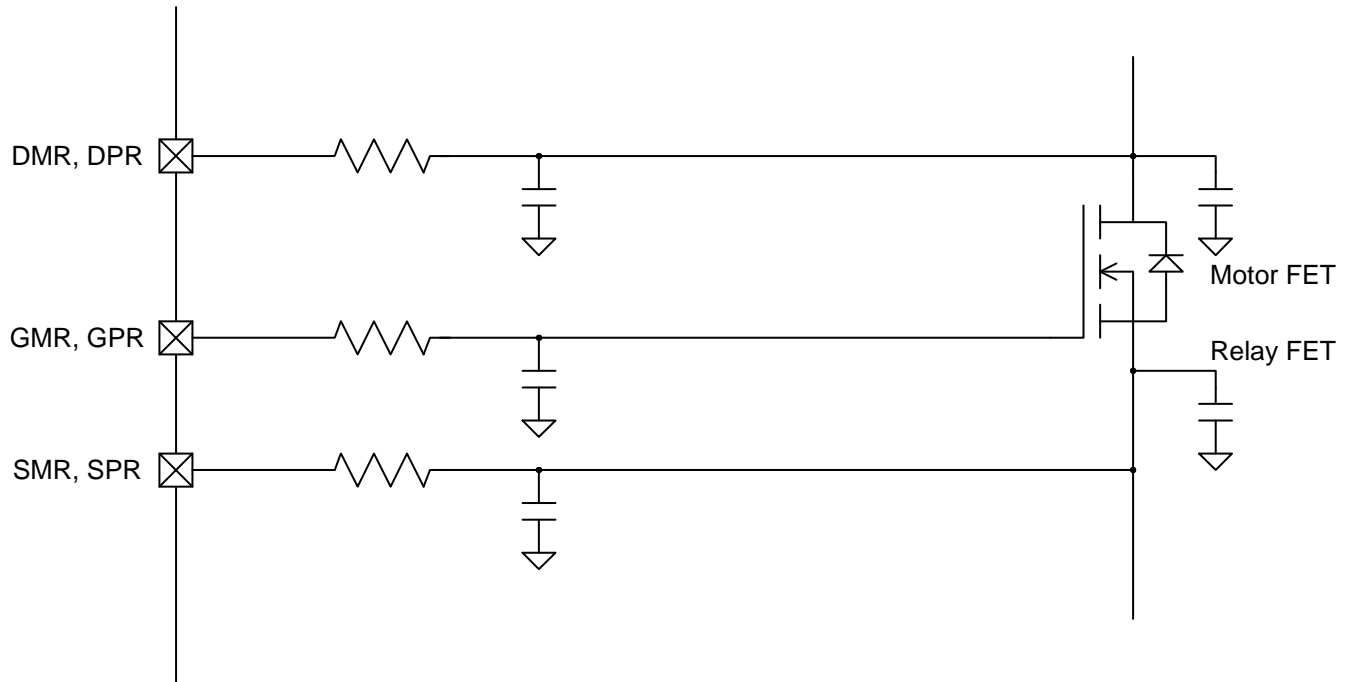

Figure 6-2. xPR and xMR Resistors in Application Diagram
The design of the components needed for the wheel speed sensor interface (VREF voltage and R_{LOAD}) is described in Section 5.3.9. The only other major design requirement is in choice of the resistors connected to pins controlling the pump relay (PR) and main relay (MR) FETs as shown in Figure 6-2. The choice of these resistors is described in Section 6.2.2.